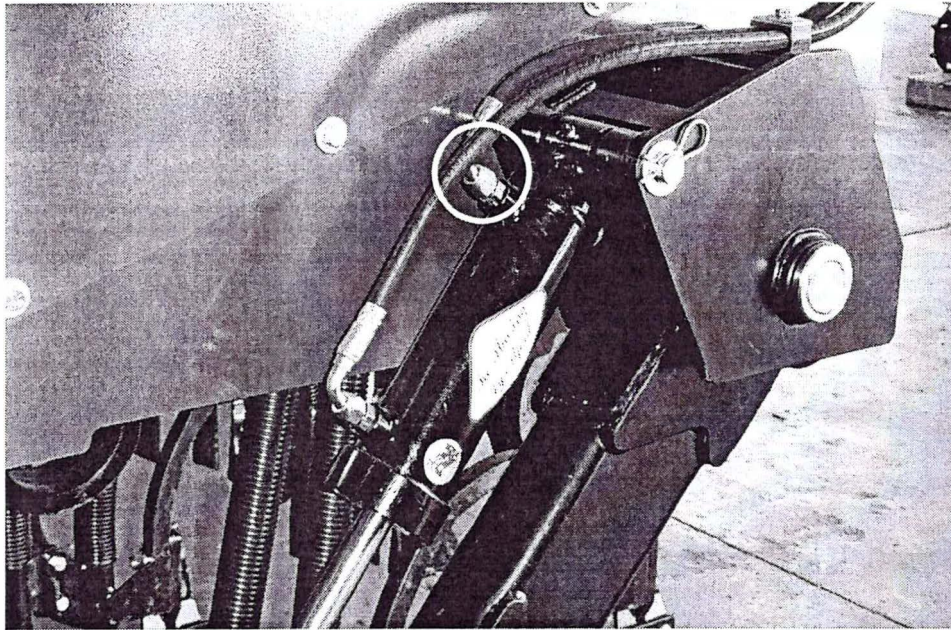

Figure 5.1: Right Hand Wheel Lift Cylinder
2. Loosen the hydraulic connector on the input line of the right hand wheel lift cylinder (see figure 5.1). This should be done to allow air to escape while the hydraulics are being primed.